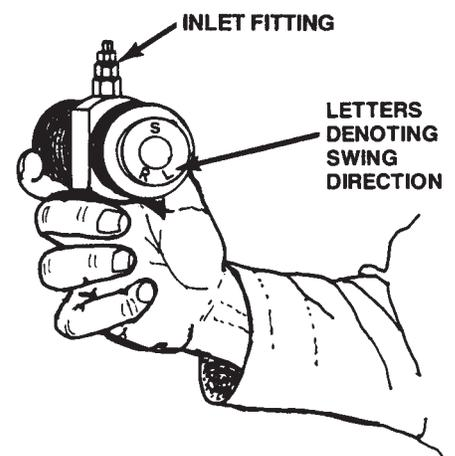

FIGURE 4
5. View the cylinder from the bottom, and align the letter (marking the direction of swing; i.e. L = left, R = right, S = straight [no swing]) at an angle 180° from the inlet fitting. See Figure 4.